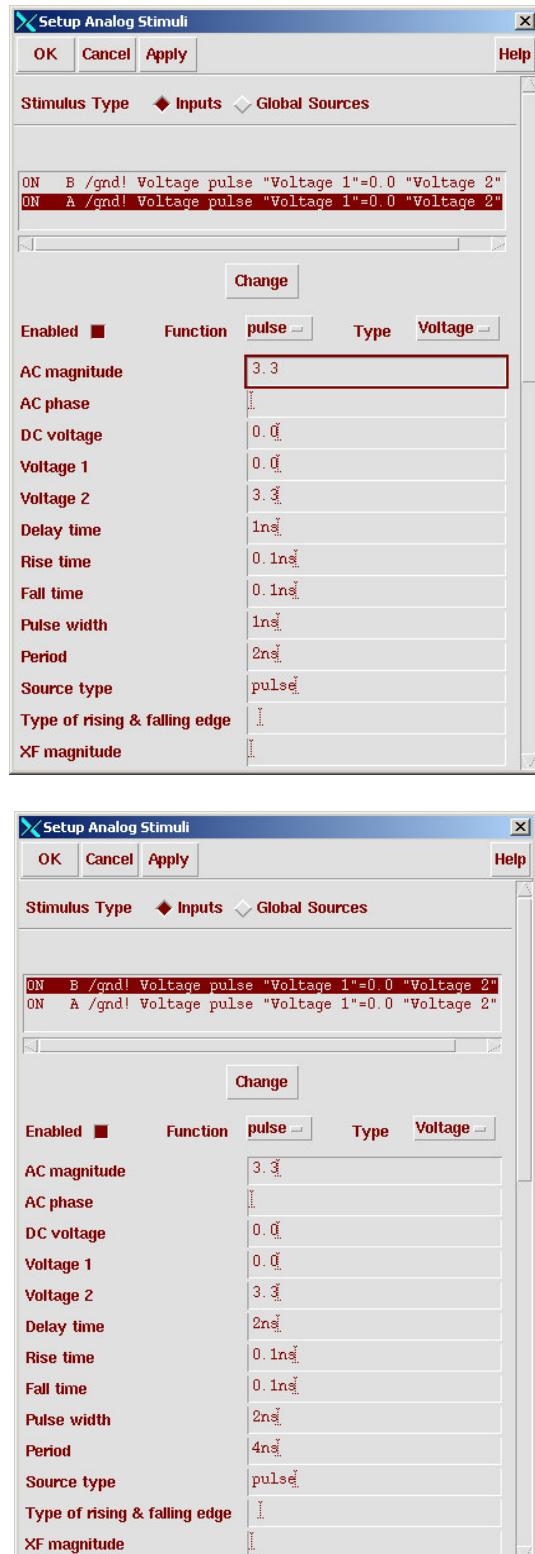

Figure 50. Setup Analog Stimuli Window
5. Now you will have two inputs to configure as shown in Figure 50.